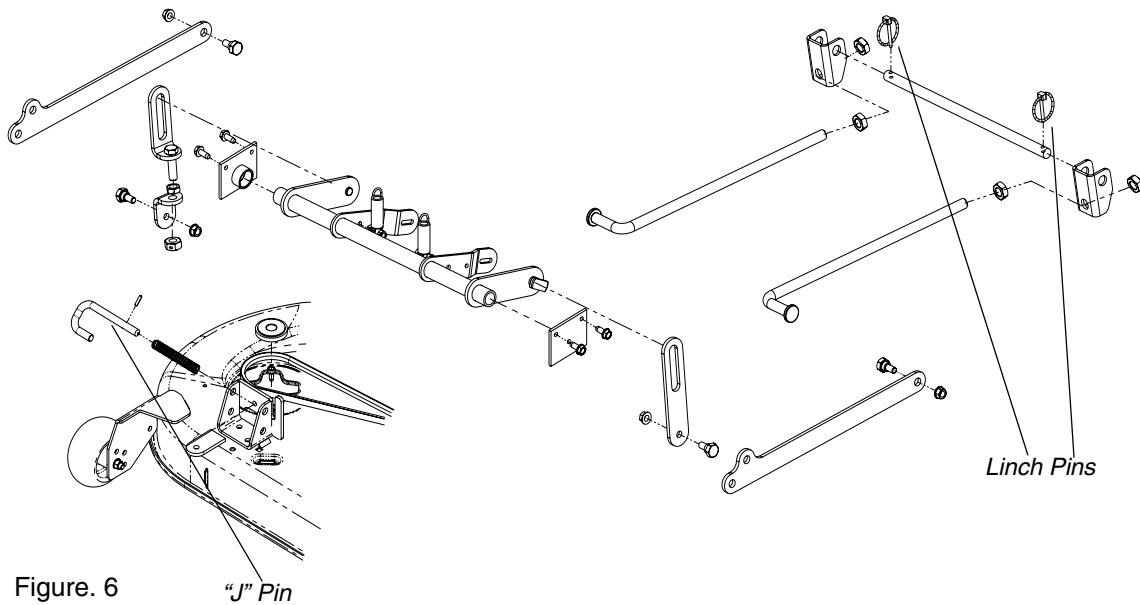

Figure. 6
- e. Remove two lynchpins (See Fig. 6) from the front of the mower. Pull the two (2) spring-loaded "J" pins on the left and right rear side of the cutter deck.